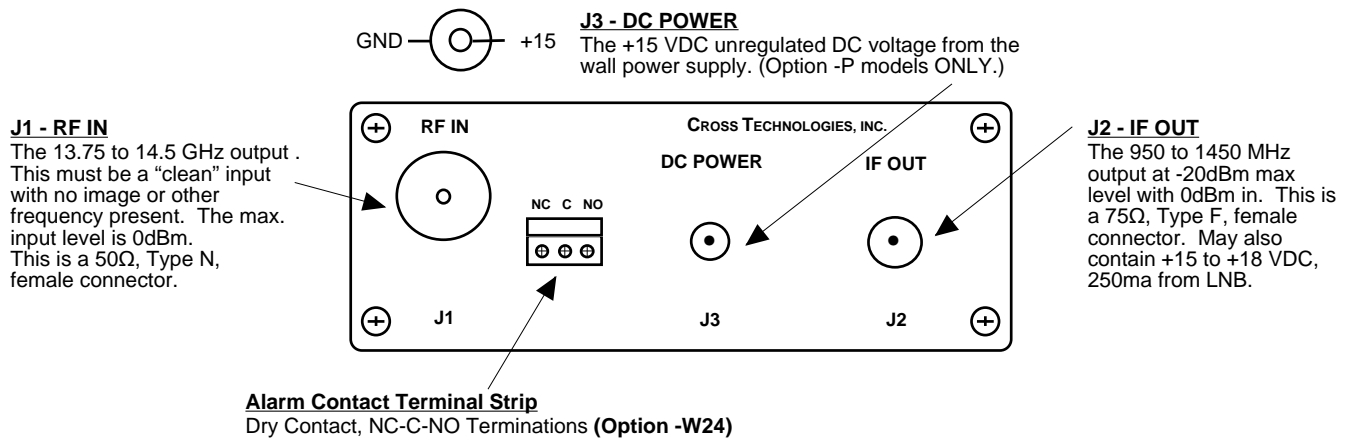

FIGURE 2.3 Model 2009-137 Rear Panel Inputs and Outputs
Figure 2.3 shows the input and output signals to the 2009-137.
1. For **-P** models, connect one end of the Wall Power Supply to the 2009-137 DC Power In, J3, and the other end to 115 VAC, 60 Hz (Figure 2.3).
2. Connect a 0 dBm, maximum signal to RF IN, J1 (Figure 2.3).
3. Connect the IF OUT, J2, to the receiver under test (For models powered from the LNB be sure that the LNB voltage is +15 to +18 VDC, 250 mA max.) (Figure 2.3).